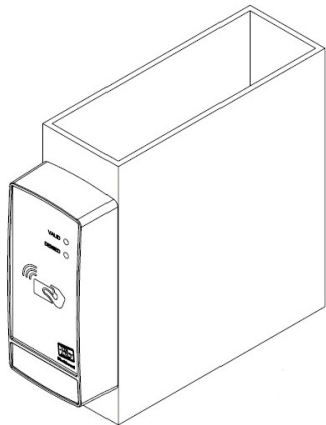

Figure 1-5 Mullion Installation
- Figure 1-5 Mullion Installation5